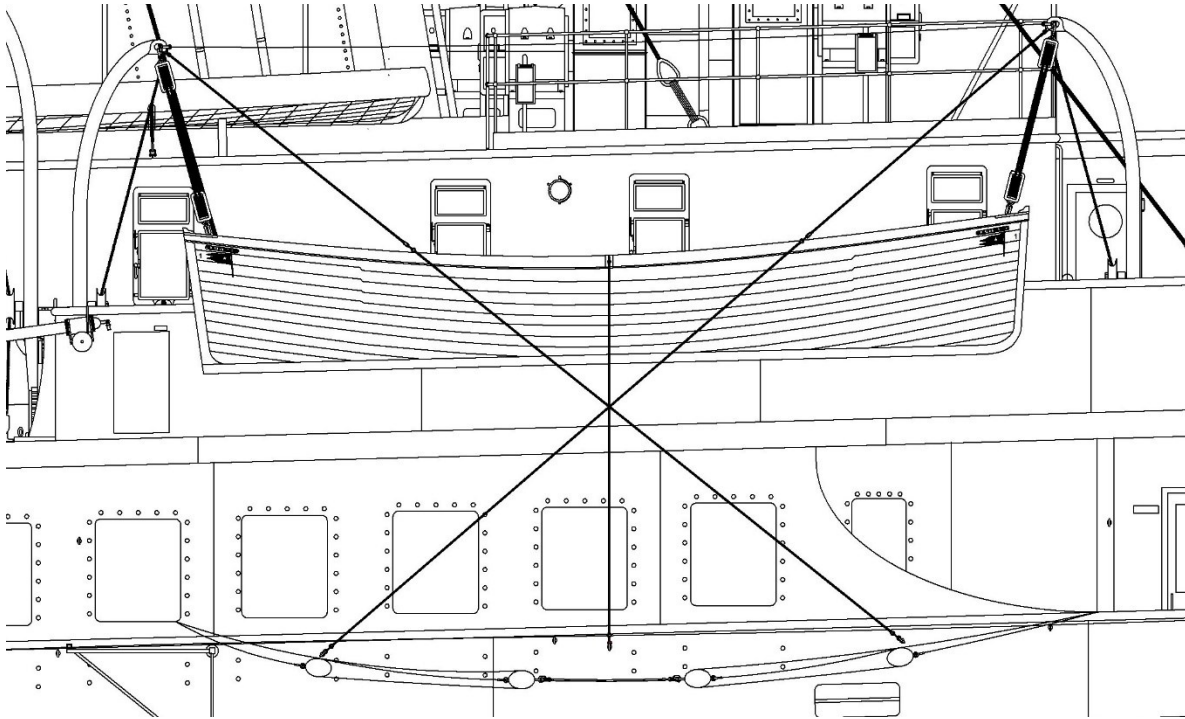

Figure 5
Step 1: Figure 5 shows the starboard emergency boat secured outboard at the ready.